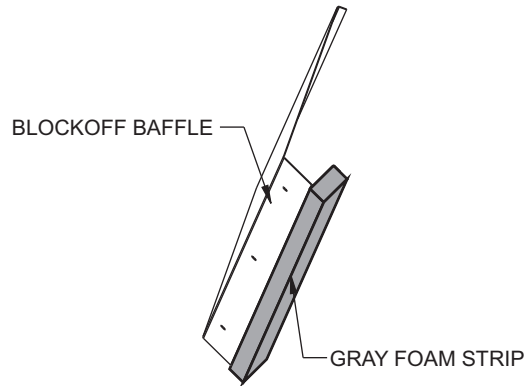

Fig. 33 — Adding Foam Strip to Block-Off Baffle
7. Attach gray foam strip (provided) to block-off baffle on outer face of flange. See Fig. 33.